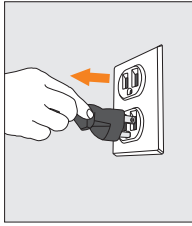
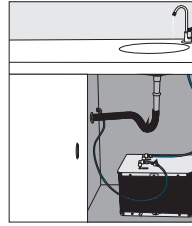

Figure 19
Figure 21
- 1.1 Follow the instructions described in 7.1, 7.2 and 7.3 (Figure 19 to Figure 21) .